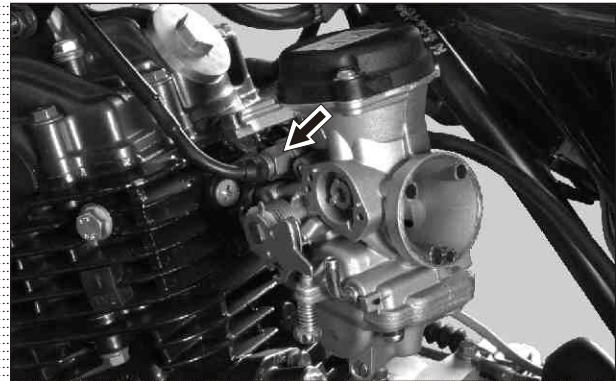

Fig. 4.16
- Loosen and remove guide holder assembly and take out cable assembly choke along with the plunger starter, spring starter, 'O' ring starter and cap starter. (Fig. 4.16)